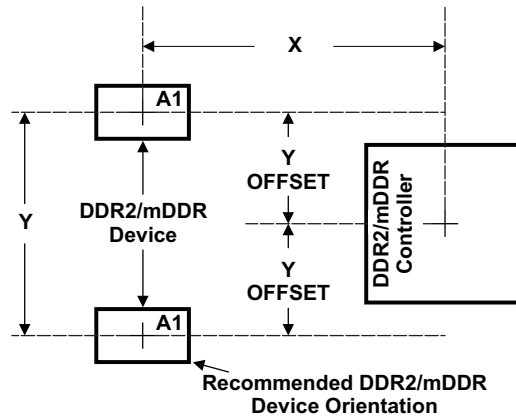

Figure 6-20. C6742 and DDR2/mDDR Device Placement
Figure 6-19 shows the required placement for the C6742 device as well as the DDR2/mDDR devices. The dimensions for Figure 6-20 are defined in Table 6-27. The placement does not restrict the side of the PCB that the devices are mounted on. The ultimate purpose of the placement is to limit the maximum trace lengths and allow for proper routing space. For single-memory DDR2/mDDR systems, the second DDR2/mDDR device is omitted from the placement.
- (1) See Figure 6-20 for dimension definitions.
- (2) Measurements from center of device to center of DDR2/mDDR device.
- (3) For single memory systems it is recommended that Y Offset be as small as possible.
- (4) Non-DDR2/mDDR signals allowed within DDR2/mDDR keepout region provided they are separated from DDR2/mDDR routing layers by a ground plane.